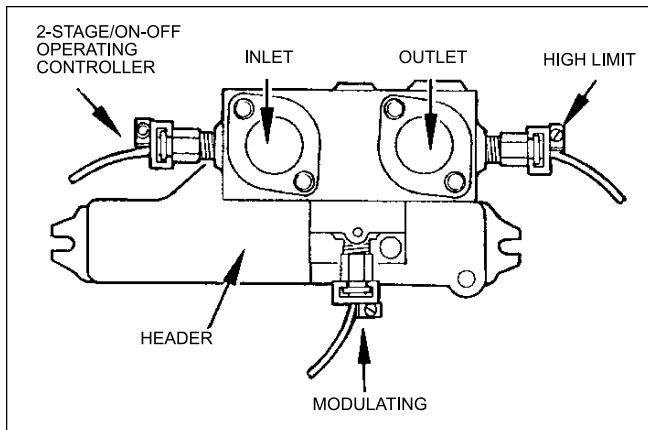

Figure 18. Sensing Bulb Locations.
10. A temperature control sensing bulb is located in the front of the header, on the inlet side, and a manual reset hi-limit sensing bulb is located on the back side of the header, on the outlet side (see Figure 18). Remove these sensing bulbs from the header. The following steps for removal apply to all sensing bulbs: